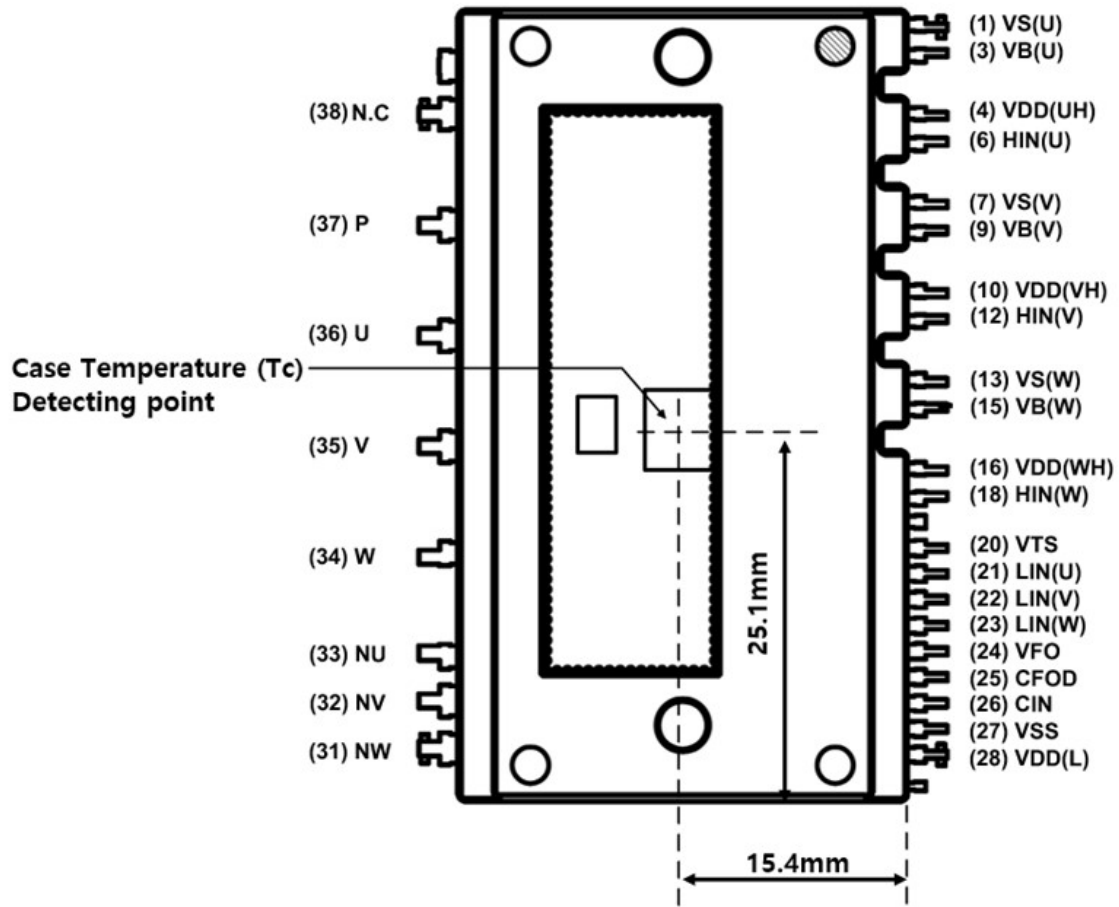

Figure 1. Pin Configuration – Top View
| Tc | Case Operation Temperature | See Figure 1 | –40~125 | °C |
3. For the measurement point of case temperature (Tc), please refer to Figure 1.